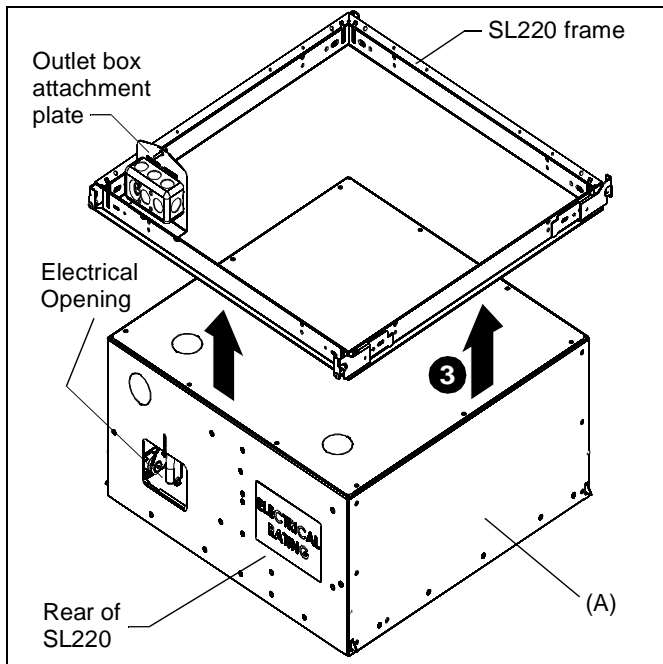
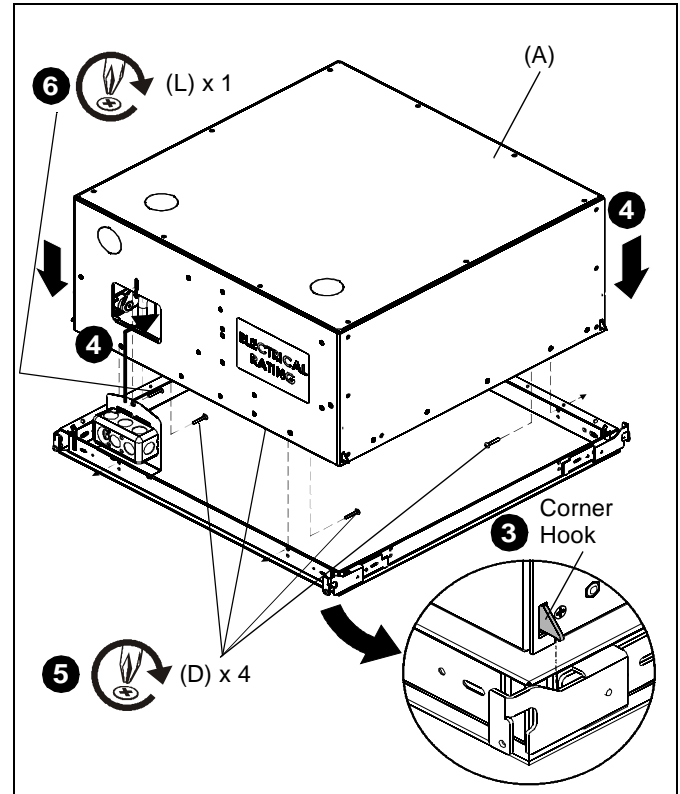

Figure 7
Figure 8
1. Check that four corner latches on lift assembly (A) are extended and ready to latch to SL220 frame.
2. Orient lift assembly so that the rear of the SL220 (with the electrical opening) lines up with the outlet box attachment plate on the SL220 frame. (See Figure 7)
3. Lift SL220 lift assembly (A) into place through the SL220 frame. (See Figure 7) Ensure that there are four audible clicks---each corner hook "clicking" into place onto the frame. (See Figure 8)
4. Lower onto SL220 frame, carefully lining up outlet box attached to SL220 frame, with opening at rear of SL220. (See Figure 8)
5. Secure the SL220 to the SL220 frame using four 8-32 x 1" Phillips head screws (D), two in the front and two in the back of the SL220. (See Figure 8)
6. Secure the outlet box attachment plate to the SL220 using one 8-32 x 1" Phillips head screw (D). (See Figure 8)